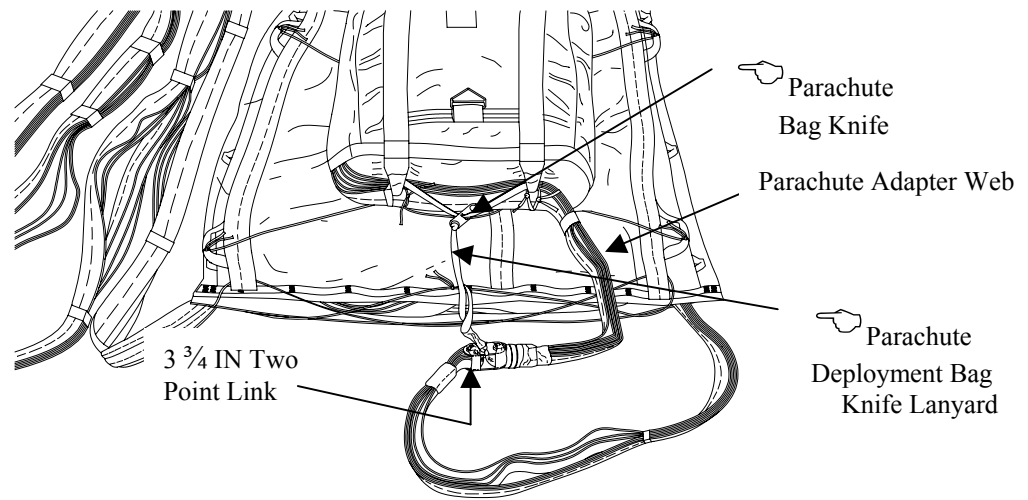

Figure 15. Extraction Parachute Attached to Extraction Line.
- c. Secure ends of tie with three alternating half hitches and an overhand knot in running ends. Trim off excess and tape (figure 15).